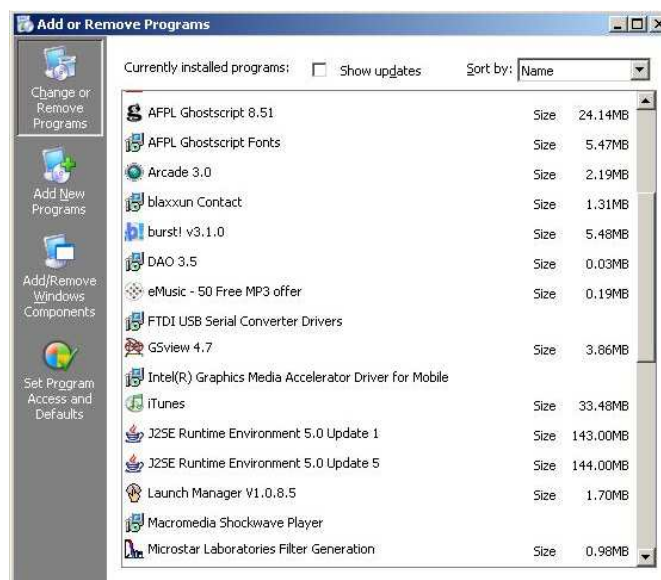

Figure 24: Add or Remove Programs
3. Double click on `Add or Remove Programs`, obtaining a screen like figure 24.
Figure 24 lists the FTDI drivers, so they are installed. Similarly, the Tcl/Tk program for the unit should be shown on the same list under `Syscomp`.
1. On the `Add or Remove Programs` list of figure 24, find the entry `System`. Double click on it to obtain the `System Properties` screen of figure 25.